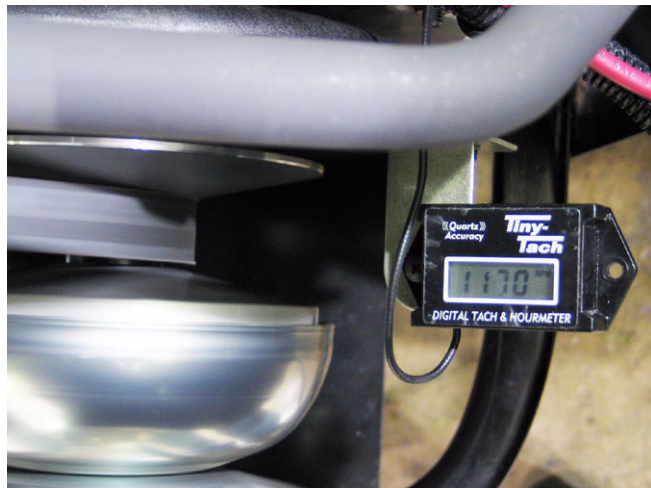

Figure 5.30
- 5.30. Release the throttle arm, then set the governed idle speed to 1,200 RPM \pm 50. See Figure 5.30.